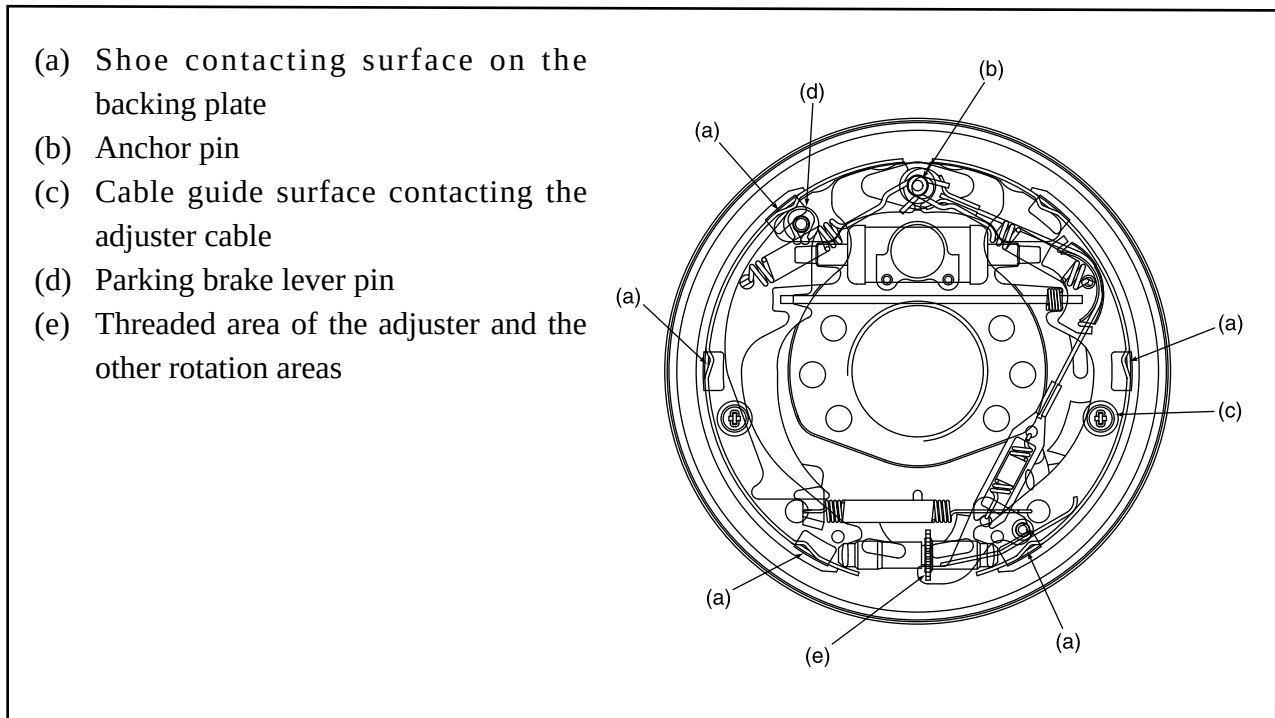

Fig. 5.23
- (4) Apply high-temperature grease to the points shown in Figure 5.23, using caution to keep grease away from the lining.